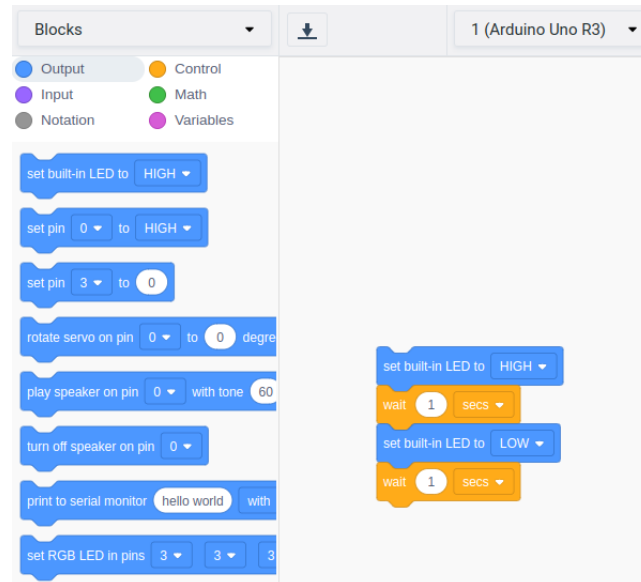

Figure 13.5: Code Editor
13. Click on the **Code** editor which is next to the **Start Simulation**. You should see a similar setup as shown in Figure 13.5.